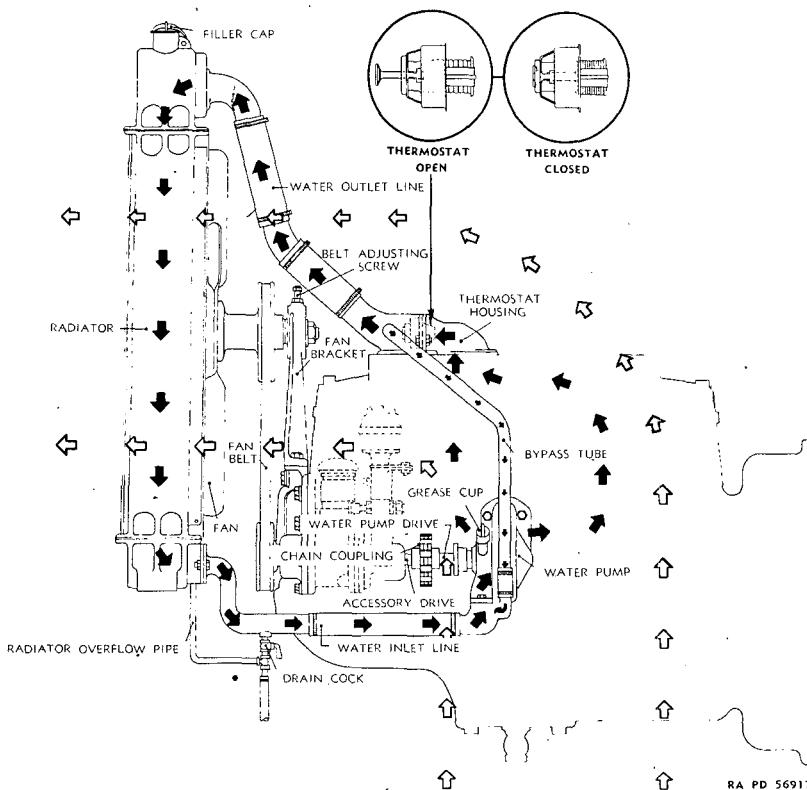

Figure 20—Cooling System Diagram
46. DESCRIPTION (fig. 20).
- (1) REMOVE FAN BELT FROM PULLEY (par. 50 d (1)).
- (2) REMOVE FAN GUARD (par. 50 d (2)).
- (3) REMOVE BELT. Take belt off lower pulley, and remove it by bringing it down over fan.
c. Installation. For instructions on installing fan belt, see paragraph 50 e, (2) and (3).
b. Functioning. The impelling force of the water pump circulates the cooled water from the bottom of the radiator through the entire cooling system (fig. 20).